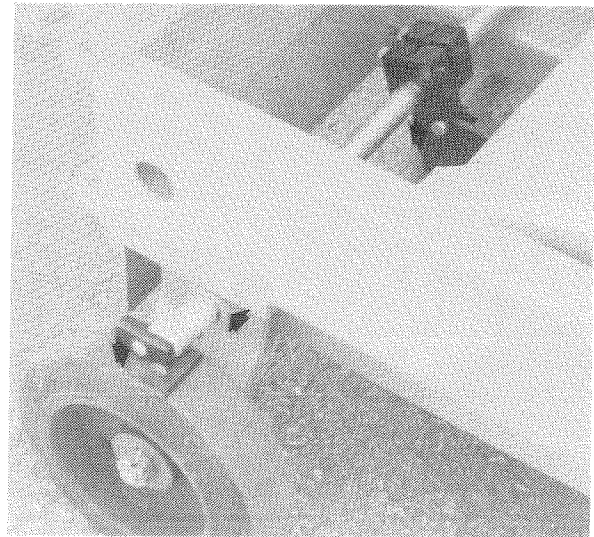

Figure 21. Lubricating Brake Linkage.
- c. Pivot areas of brake linkage, Figure 21.